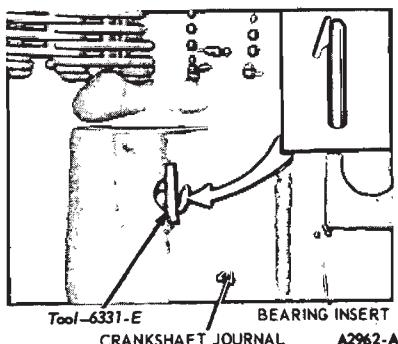

FIG. 35—Removing or Installing Upper Main Bearing Insert
3. Insert the upper bearing removal tool (tool 6331-E) in the oil hole in the crankshaft (Fig. 35).
(Fig. 35). With tool 6331-E positioned in the oil hole in the crankshaft, rotate the crankshaft in the opposite direction of engine rotation until the bearing seats itself. Remove the tool.